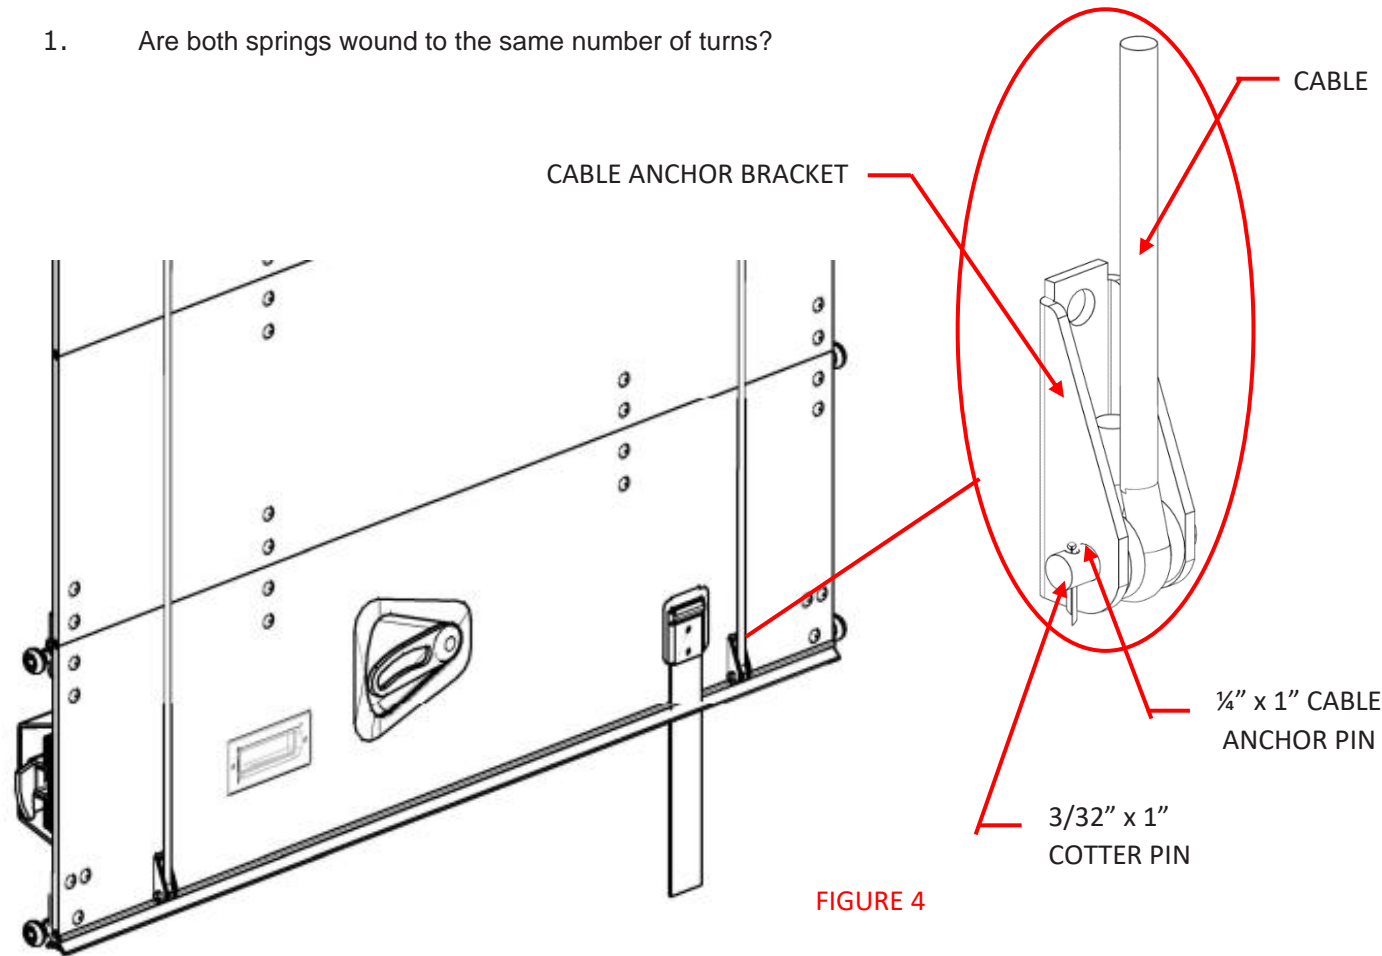

FIGURE 4
3. Inspect Roll-up Door Cables for fraying or wear damage and replace if needed. (See Figure 4).
4. Inspect Cotter Pins and Cable Anchor Bracket Pins for wear damage and replace if needed. (See Figure 4).